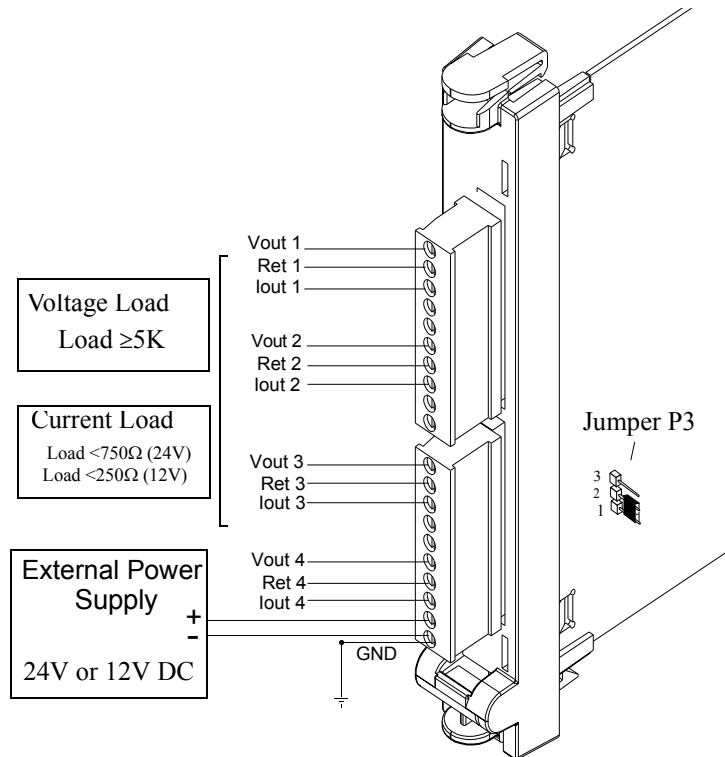

Figure 40
Punch a hole at the relevant location and of the appropriate size in one of the perforated circles at the bottom of the RTU housing and thread the wires through the opening. These wires (20 AWG gage, twisted pair wires are recommended) are connected to the TBs, located at the front of the 4 AO module (see Figure 40).
When using an external P.S source (see Figure 40), all outputs resume normal operation during MOSCAD-L AC power supply fail. This can happen as long as the battery level remains above 10.8 V. When the battery power drops below 10.8 V the CPU shuts down and after 16 seconds all outputs are lowered to zero.
1. To select an external P.S, place jumper P3 (see Figure 40) on pins 1 and 2 on the analog output board option, or pins 3 and 2 for internal P.S.
To ensure proper operation, verify that the GND terminal is grounded at all times (see Figure 40).